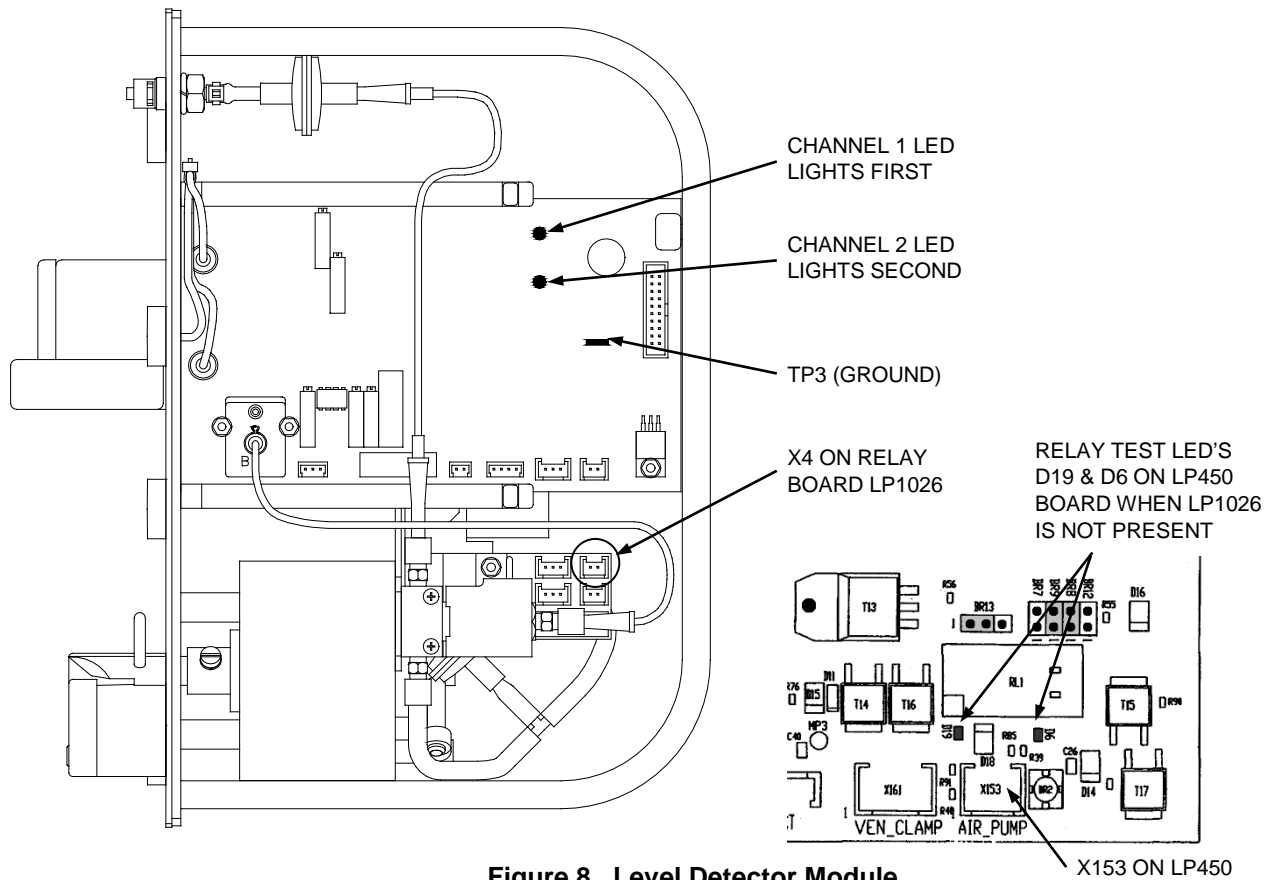

Figure 8. Level Detector Module.
3. Position the Level Detector so you can watch the Channel 1 and Channel 2 LED's on the circuit board (See Figure 8).
2. Locate the relay test LED's D6 and D19 on the LP450 board (see Figure 8).
Note: If LP450 does not have relay test LED's then locate a separate relay board LP1026 (see Figure 8). LP1026 test LED's are D3 and D4.